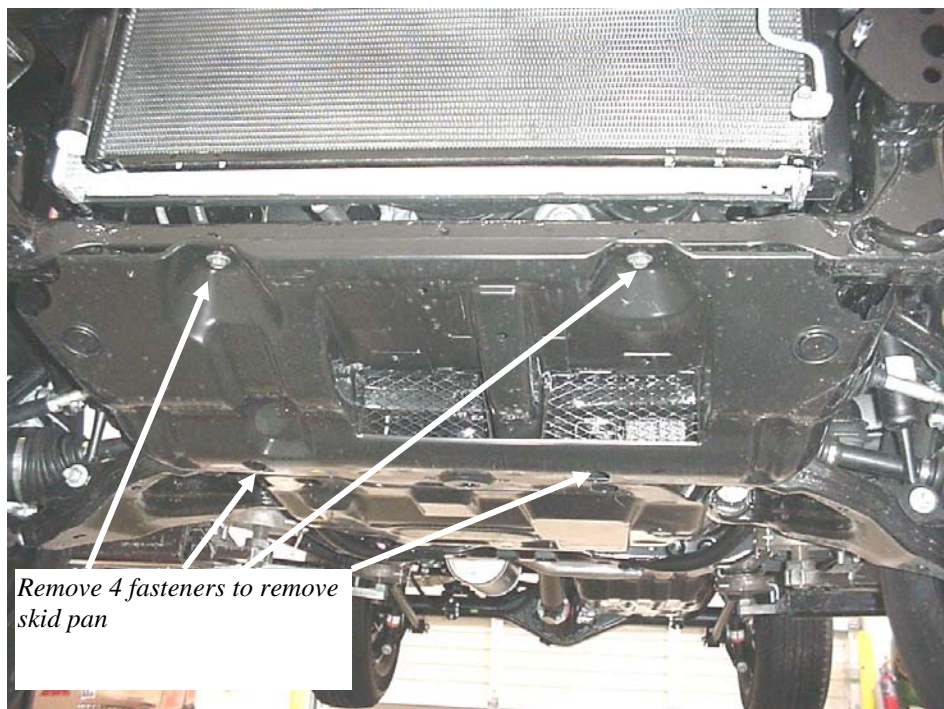

Figure 11 Skid pan
11. Remove the four screws and remove the skid pan. Retain the hardware for reinstallation of the skid pan. **Figure 11**